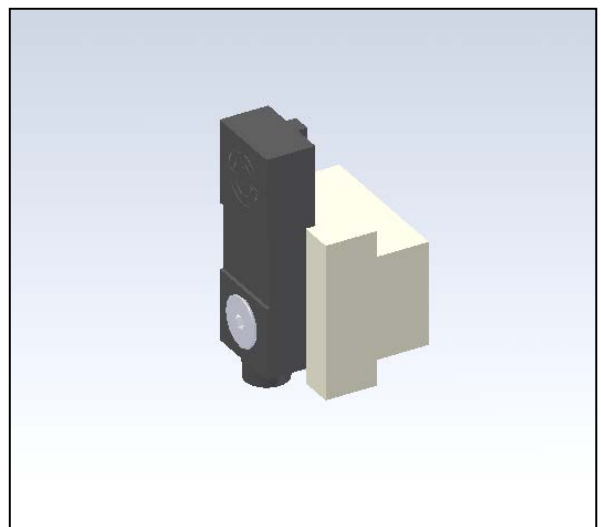

Figure 3-349. Sensor Mounting Block
4. Remove the sensor from the mounting block, and install the new sensor (Figure 3-349).